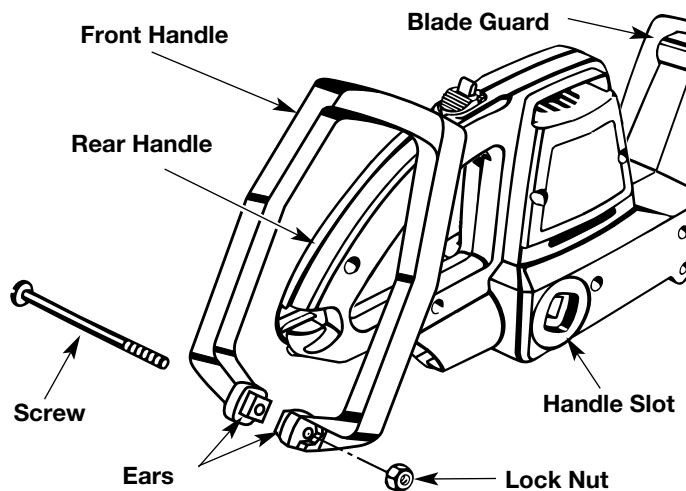

Fig. 1
2. Spread the ears of the front handle and fit into the handle slots on the motor housing (Fig. 1).